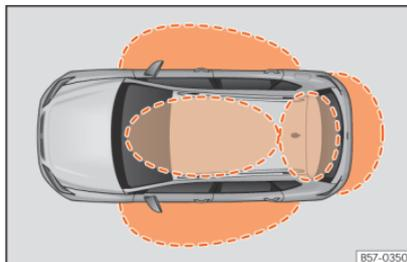
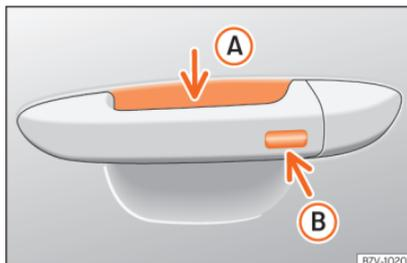

Fig. 91 Keyless Access: proximity zones.
Fig. 92 Door handle: sensor surfaces
>>> Fig. 92
Keyless Access is a key-free locking and ignition system to unlock and lock the vehicle without actively using its key. To do this, all that is required is to have a valid vehicle key in the detection area where you are attempting to access the vehicle » **Fig. 91** and to touch one of the sensor surfaces on the door handles » **Fig. 92** or operate the *softtouch*/handle on the rear lid » **page 110** » **!**.
If a valid key is in the proximity of the car, » **Fig. 91** the Keyless Access locking and starting system gives the key entry as soon as one of the sensor surfaces on the door handles is touched or the *softtouch*/handle on the rear lid is operated.
- Grip one of the front door handles. When you do this, you touch the sensor surface » **Fig. 92** **(A)** (arrow) of the handle and the vehicle unlocks.
- Touch (once) the locking sensor surface » **Fig. 92** **(B)** (arrow) on one of the front door handles. The door that is used must be closed.
- Touch (once) the sensor surface »» Fig. 92 **B** (arrow) on one of the front door handles. The vehicle locks with the “Safe” security system »» page 105. The door that is used must be closed.
- Touch (twice) the sensor surface »» Fig. 92 **B** (arrow) of one of the front door handles to lock the vehicle without activating the “Safelock” security system »» page 105.
When the vehicle is locked, the rear lid automatically unlocks on opening if there is a valid vehicle key in the proximity zone »» Fig. 91.
- Push the central locking button  on the remote control and touch the locking sensor surface of the driver door handle »» Fig. 92 **B** within the following 5 seconds. Do not grasp the door handle; otherwise the vehicle will not unlock. Deactivation is also possible if the vehicle is locked through the driver's door lock.
To close all the electric windows and the sunroof using the **comfort function**, keep a finger for a few seconds on the locking sensor surface »» Fig. 92 **B** (arrow) of the door handle until the windows and roof have closed.
The sensor surfaces on the door handles could engage if hit with a water jet or high pressure steam if there is a valid vehicle key in the proximity. If at least one of the electric windows is open and the sensor surface »» Fig. 92 B (arrow) on one of the handles is activated continuously, all windows will close.